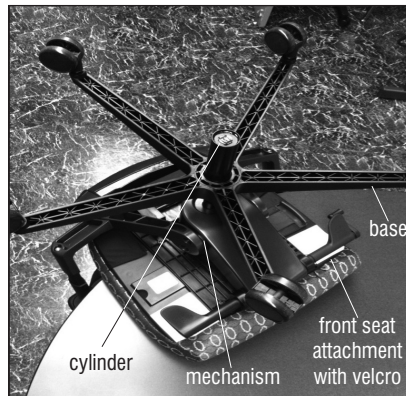

Figure 1
9. Place the new or original base onto the bottom of the cylinder, then tap with a weighted rubber mallet around the blades of the base to seat the base to the cylinder (Figure 1). Carefully return chair to the upright position.
10. To remove the upholstered seat cover from the seat board and mechanism, first locate and remove the velcro attachment points at the front and back of the seat, then carefully pull off (Figure 1.)
11. Replace the upholstered seat cover onto the seat board and mechanism by attaching it first to the front, then to the back by wrapping the two back pieces over the back of the seat board. Re-adjustment may be necessary to achieve good fit and finish (Figure 1).